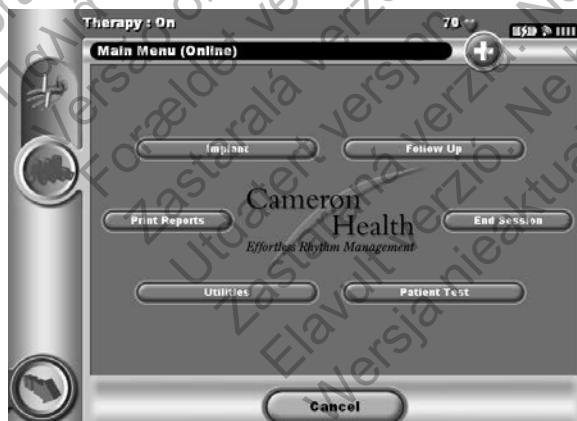

Figure 34: Select the Patient Test button to access the Manual Shock Test screen
- Select the Patient Test button (Figure 34) to display the Manual Shock Test screen.